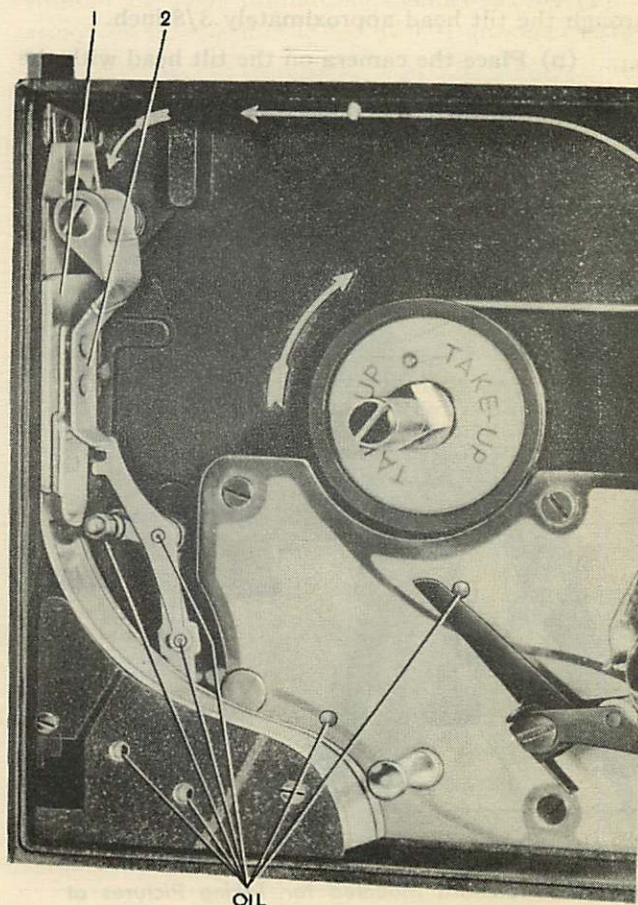

Figure 18—Points to Oil on the 100-Foot Film Chamber
(1) Raise the spring lever (2, figure 18) and lift out the pressure pad (1).
(2) With the ball of the thumb rub off any
(1) Apply one drop of oil to the points indicated in figure 18. Attach the chamber to the camera and run the mechanism intermittently.
(2) Be sure all excess oil is removed, particularly at those points near the film track. Oil on the film will cause spots in the developed image.